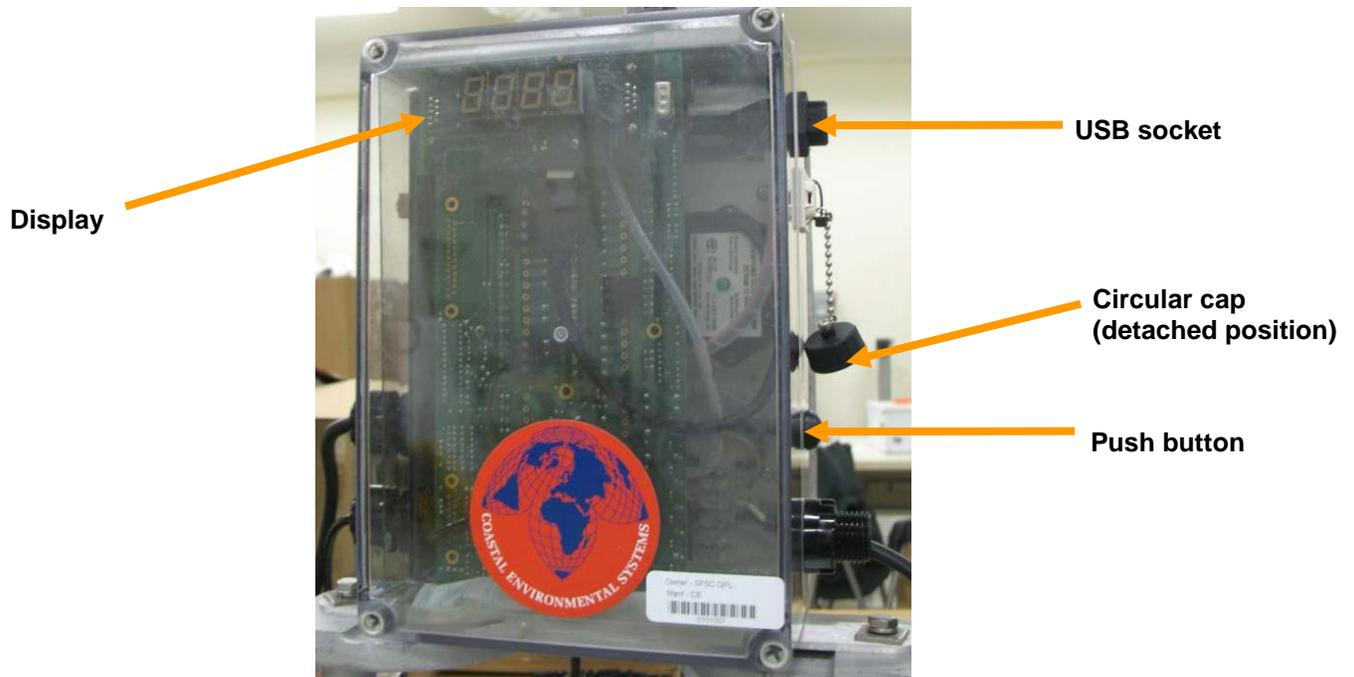

Figure A-21: FPR-E ZENO® Assembly
- a. Press the button on the right side of the FPR-E ZENO® Assembly to light up the display. See Figure A-21.